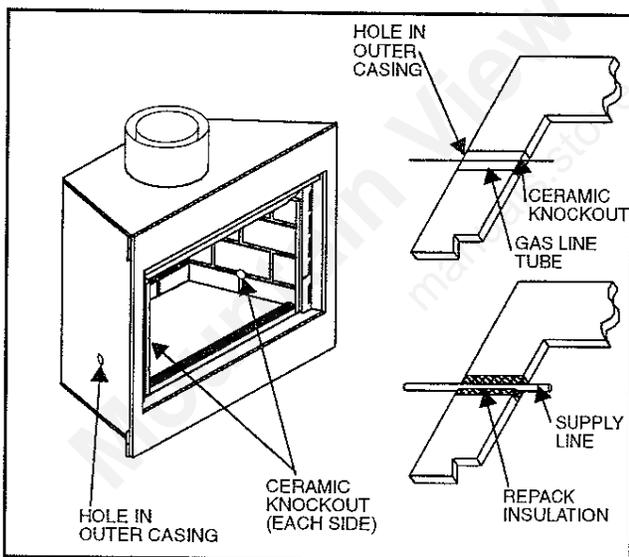

Fig. 24. Install iron pipe gas line through hole provided in either side of fireplace.
Locate the appropriate gas line hole in the outer casing of the fireplace and remove the insulation from the gas line tube. (Refer to Fig. 24.)
**NOTE:** The gas pipe should not come in contact with any wood structures until it has reached a point at least one (1) inch away from the fireplace side. (See Fig. 24 for installation clarification.)